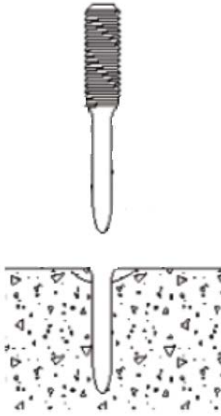

Fig. 2
1. The fastener may pull out of the concrete/masonry (see **Fig. 2**), **OR**